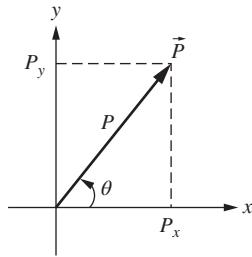

Figure P4.5 A one-link robot represented in polar coordinates.
- 4-5.** The tip of a one-link robot is represented as a position vector \vec{P} as shown in Fig. P4.5. Find the x - and y -components of the vector if the length of the link is $P = 8$ in. and $\theta = 60^\circ$. Also, write the vector \vec{P} in rectangular and polar form.